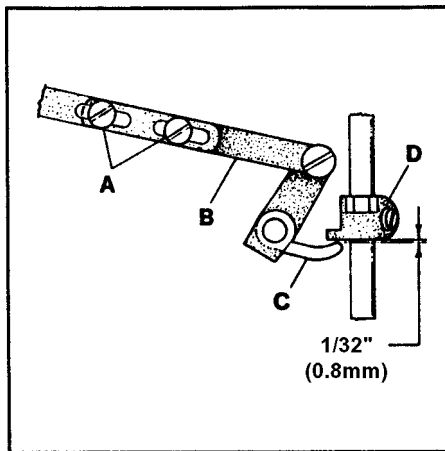

FIG. 22
Replace the presser spring and the presser bar regulating screw. Loosen screws (A, Fig. 22) in lifter lever link assembly (B) and position lever (C) so there is  $1/32$ " (0.8mm) clearance between it and presser bar guide (D) when the feed dogs are below the throat plate.
Make sure the  $1/32$ " (0.8mm) clearance between the presser bar lifter lever and presser bar guide has been maintained. Refer to Fig. 22 if readjustment is necessary.